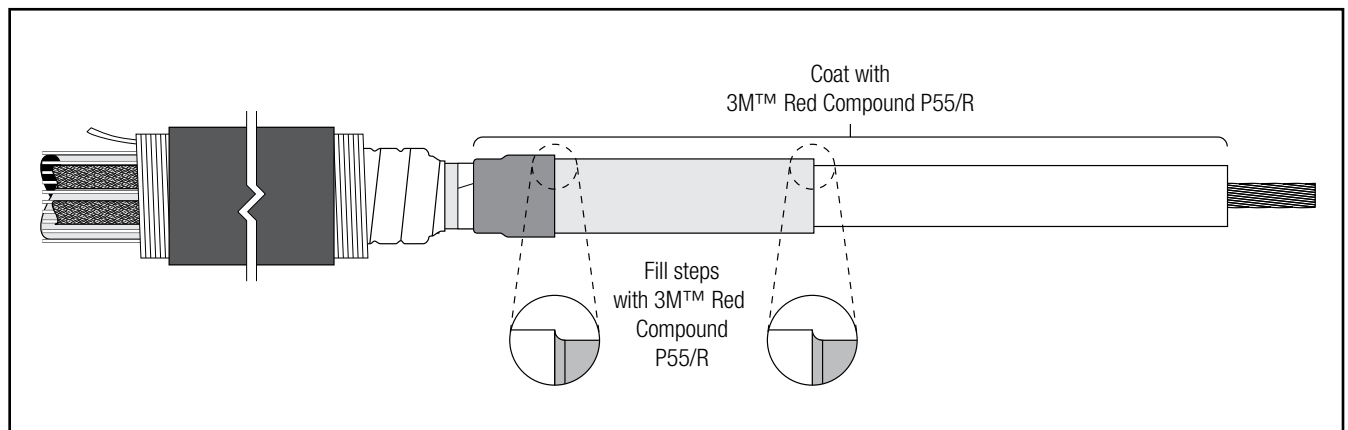

Figure 24
- 6.5 Apply 2 tubes 3M™ Red Compound P55/R to the exposed insulation and stress control assembly. Make certain to fill the steps of the stress control assembly, as indicated in figure 24, with the 3M™ Red Compound P55/R. (Figure 24)